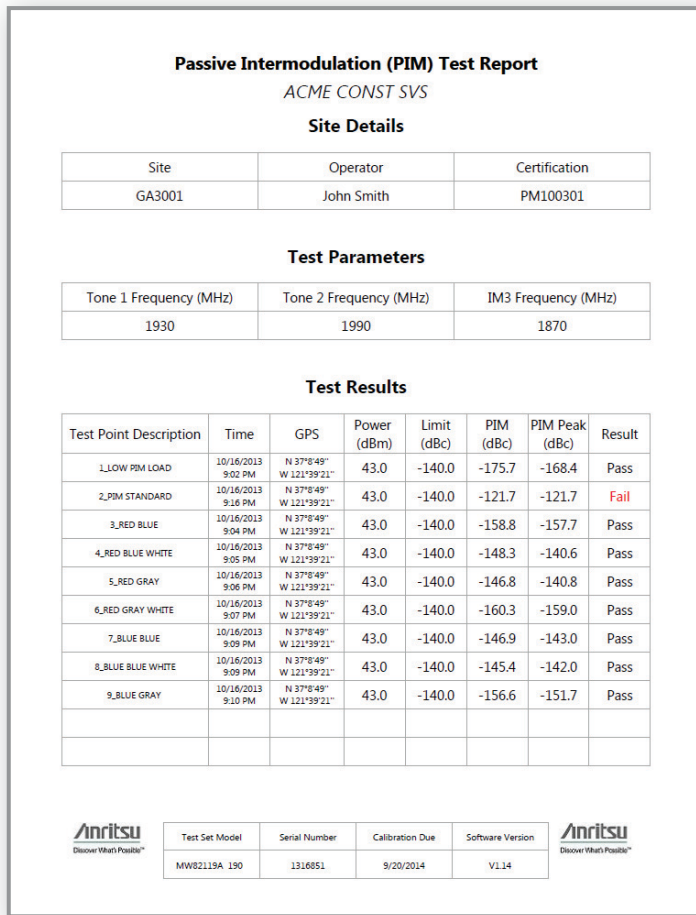

Figure 7-11. Generated Tabular PIM Sweep Report
3. A window opens to provide you with the opportunity to name the report and to specify the save location. Select Save. See Figure 7-11 on page 7-12 for a report example.
Figure 7-11 illustrates a tabular PIM sweep report.